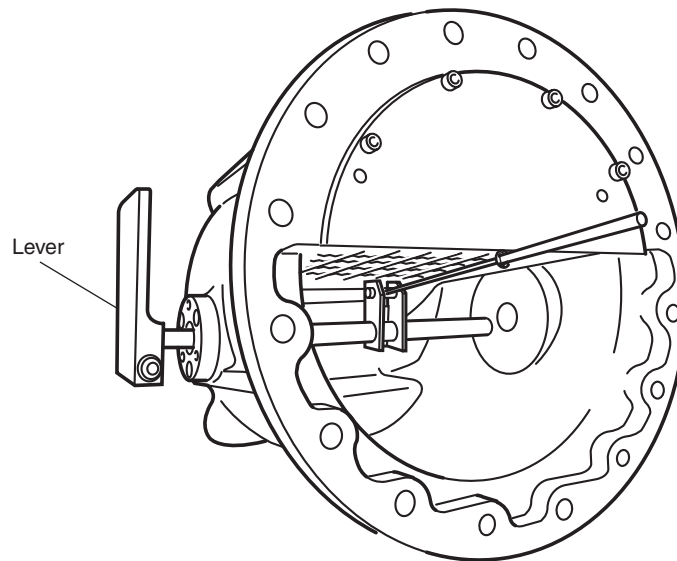

Fig. 4-41 Installing lever
- (1) Before installing the discharge end cover, check to be sure the joint (arm) of the drive shaft and the pilot valve is located above the drive shaft.
- (2) Install the lever (dedicated jig (6)) to the end face of the drive shaft (outside of the discharge end cover) with a M8 hexagon head bolt, in the same direction as that of the arm. (See Fig. 4-41.)
- (3) Insert the first demister in the fixing plate of the main bearing holder, and then, while inserting the pilot valve in the piston, install the discharge end cover. (If the arm is located below the drive shaft, the pilot valve will be damaged when conducting the next step 9). Therefore, pay attention to this point.)